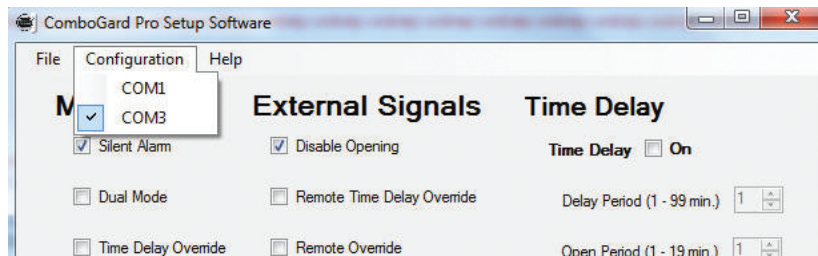

Figure 3.
- Select the appropriate COM port from the list (Figure 3). For a USB Adapter select the virtual COM Port assigned by the system. For a Serial Adapter select the standard Serial COM Port to be used.